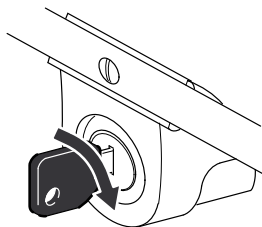

Figure 13
A. Insert the key into the switch (Fig. 13).